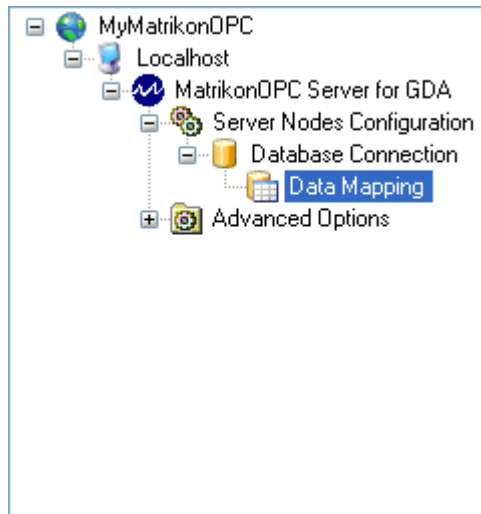

Figure 13 - New Data Mapping Object
8. Click on the **Create** button. The new item is created and appears as a child of the **Database Connection** node in the navigation pane as shown in Figure 13.